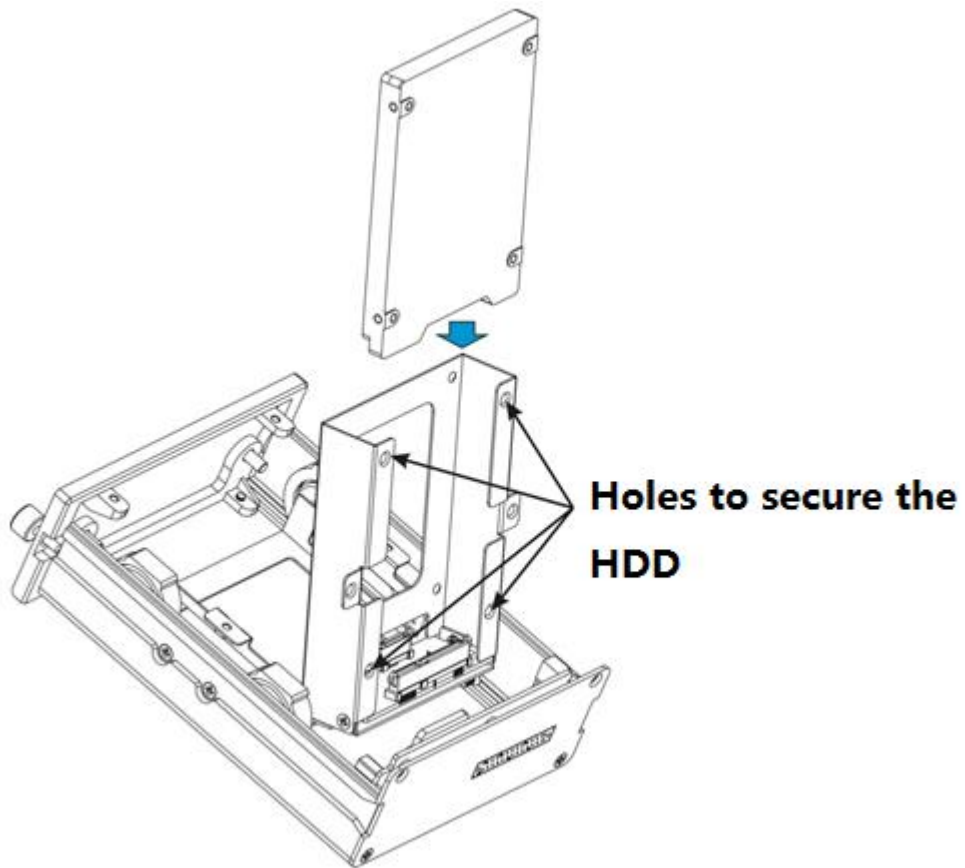

Figure 2-14
Step 4 Install the first HDD. Turn the HDD bracket to the top. See Figure 2-14 . Follow the arrow to put the HDD to the HDD bracket. Line up the screw holes of the HDD to the HDD holes and then use the screws to secure firmly.